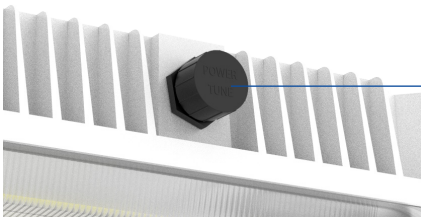

Fig. 12
1. Remove the cap that is located on the side of the fixture (Fig. 12).